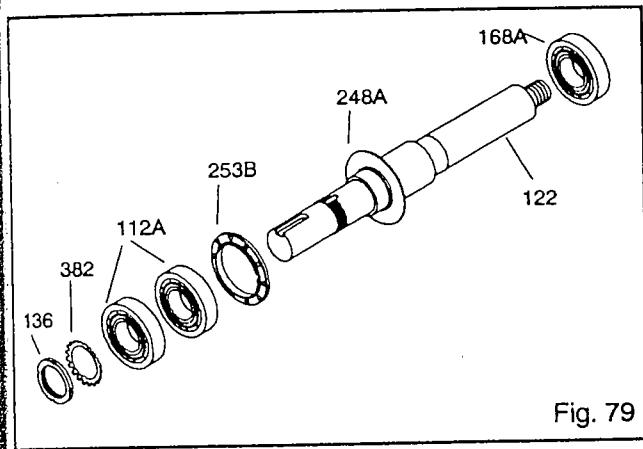

Fig. 79
- Install jacking bolts (370D) with locking nuts (423) into housing (134). Hand tighten.
- Install oil flinger (248A) on shaft (122) if removed (Fig. 79).